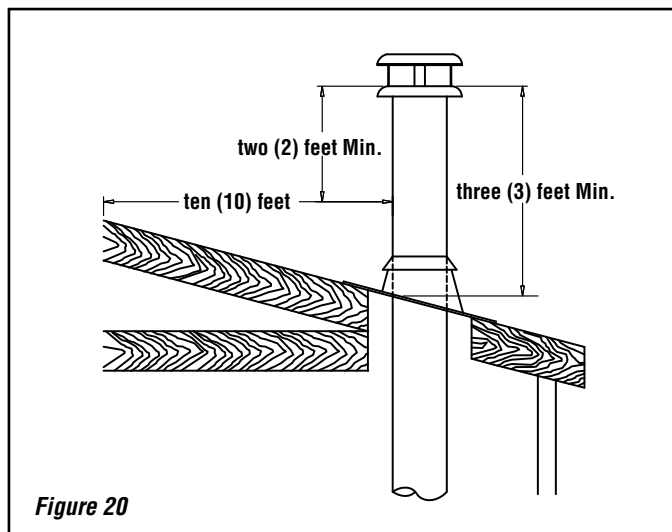

Figure 20
5. All chimney installations must include at least one support in order to be able to take any lateral load. The maximum chimney length that can be supported by the fireplace is nine (9) feet (2.75 m) for Secure Temp S2100+\* / Nova Temp HT6000+\* / Secure Temp GX\* and 26 feet (8m) for ACBI\* (air cooled) chimney. In altitude, add 18" (450 mm) to the chimney for every 2,000 feet (600 m) above sea level.
6. The chimney must extend at least three (3) feet (915 mm) above its point of contact with the roof and at least two (2) feet (610 mm) higher than any wall, roof or building within ten (10) feet (3 m) of it (**Figure 20**).
7. If the chimney extends higher than five (5) feet (1,500 mm) above its point of contact with the roof, it must be secured using a roof brace.